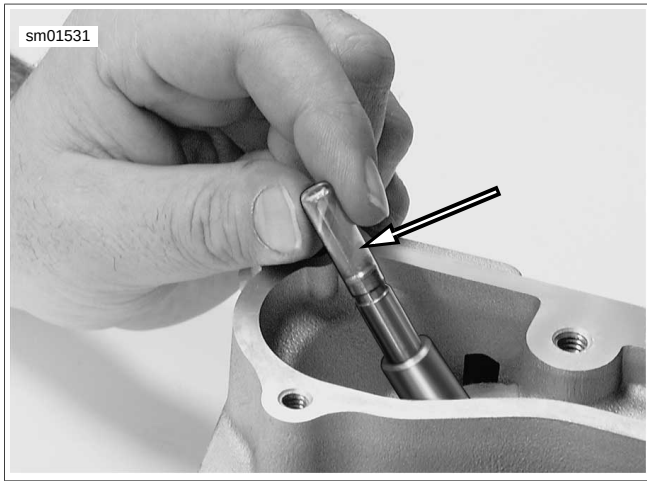

Figure 3-132. Valve Guide Seal Protector Sleeve
3. See Figure 3-132. Place a protective sleeve over the valve stem keeper groove. Coat the protective sleeve with oil.